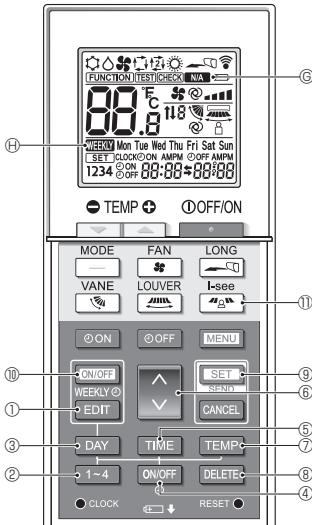

Fig. 4-3
**<Switching to the editing mode>** (Fig. 4-3, Fig. 4-4)
- **[SET]** ⑨ blinks.
Press the **[1-4]** button ②. (Fig. 4-3, Fig. 4-4)
- Each time the **[1-4]** button ② is pressed, the pattern number ④ changes in the following order: 1 → 2 → 3 → 4.
Press the **[DAY]** button ③. (Fig. 4-3, Fig. 4-4)
- Each time the **[DAY]** button ③ is pressed, the day of the week ⑤ changes in the following order: Mon → Tue → Wed → Thu → Fri → Sat → Sun → All days.
1. Press the **[ON/OFF]** button ④. (Fig. 4-3, Fig. 4-5 ④)
- Each time the **[ON/OFF]** button ④ is pressed, the setting switches between **⊙ON** and **⊙OFF**.
2. Press the **[TIME]** button ⑤. (Fig. 4-3, Fig. 4-6)
- Press the **[↓]** button ⑥ to set the operation time.
3. Press the **[TEMP]** button ⑦. (Fig. 4-3, Fig. 4-7, Fig. 4-8)
- Press the **[↓]** button ⑥ to set the temperature.
- When the **AUTO** (dual set point) mode is enabled, press the **[TEMP]** button ⑦ to switch between the upper limit ⑥ and the lower limit ⑦.
**<Deleting the settings>** (Fig. 4-3)
**<Transmitting the settings>** (Fig. 4-3)
### <Enabling the weekly timer> (Fig. 4-3)
### 4.7. i-See sensor (Fig. 4-3)